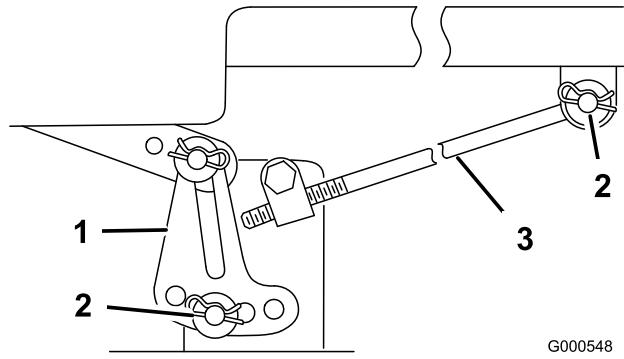

Figure 49
Note: Before removing the mower, make a note for which holes are used in the leveling brackets (Figure 49).
5. Remove the hairpin cotter and washer from the adjusting rod (Figure 49) on each side of the mower.
6. Remove the hairpin cotter and washer at the mower leveling brackets (Figure 49) on each side of the mower. Note which hole the leveling bracket is mounted in for future installation. Slide the brackets off of the mounting pin.
5. Attach the adjusting rod to the machine with the washer and hairpin cotter (Figure 49) on each side of the mower.
6. Slide the leveling brackets onto the mounting pins and secure them with the washers and hairpin cotters (Figure 49).